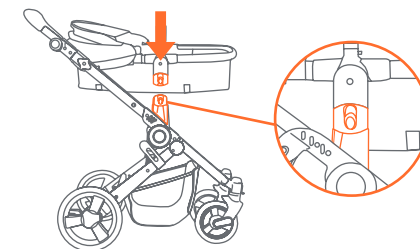

Fig. 6b
- Attach the seat by lining up the seat anchors on the side of the seat with the anchors on the stroller frame and pushing them together until they click securely (Fig. 6b). The seat can face in either direction, frontward or backward.